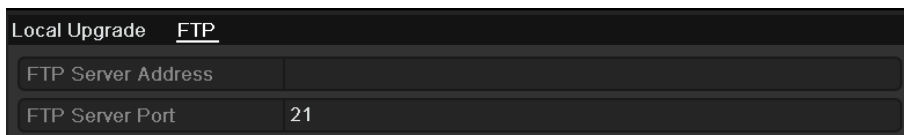

Figure 15. 8 FTP Upgrade Interface
2. Click the **FTP** tab to enter the local upgrade interface, as shown in Figure 15. 8.